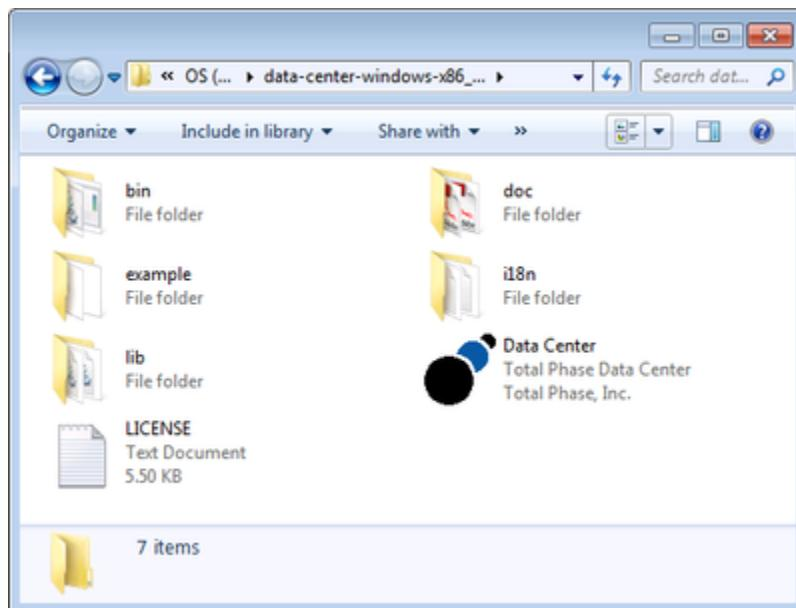

Figure 1 : Total Phase Data Center Software Directory Contents
1. Go to the folder (Figure 1) where the software package was extracted.